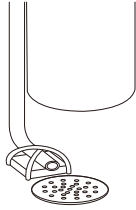

Figure 2
- ⑥PPR pipe, corrugated pipe and UPVC pipe are recommended in pipeline construction instead of polyethylene-aluminum pipe.
- ⑦The control valve should be mounted above the drain outlet.
- ⑧As in Figure 2, it's forbidden to connect the drain pipeline directly to the drain outlet. Some certain space is needed in between in case that dirty water is siphoned back to the device.
- ⑨Handle and hand wheel can only be rotated to right or left, within its limits, and can't be flipped up and down.